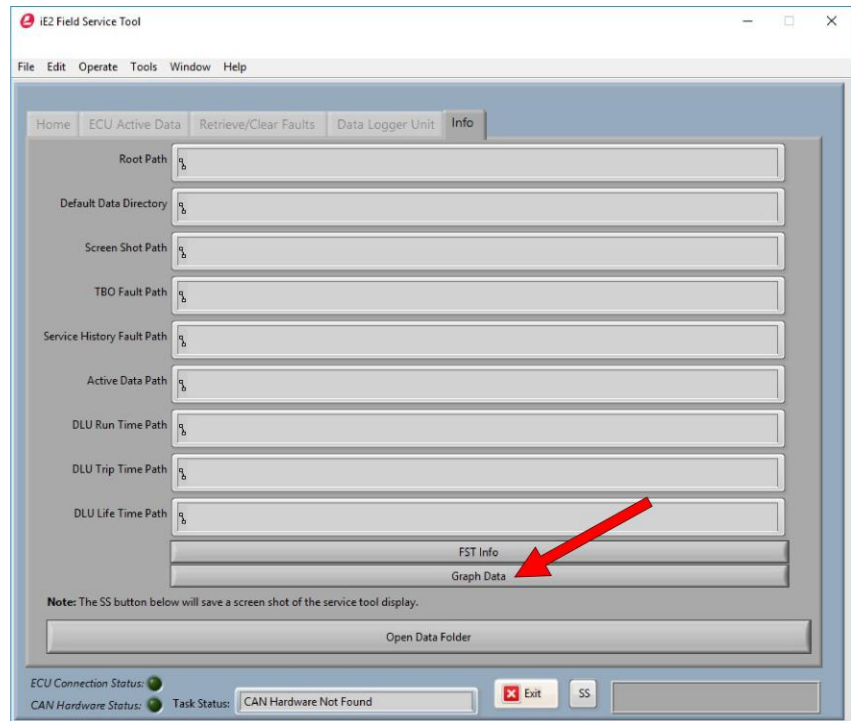

Figure 15
This feature allows the user to graph runtime data and active data logged by the field service tool. This feature can be used when the ECU is not connected (Figure 15).
NOTICE: All tabs except Info are disabled when the FST is started with no hardware attached. (Figure 15)
2. Click on the “Graph Data” button (Figure 15).